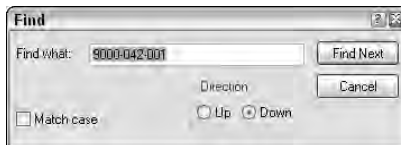

Figure 20-7: The Find dialog box
2. Choose Data View ⇨ Find to open the Find dialog box, shown in Figure 20-7. (You can also right-click any cell in the column and choose Find.)